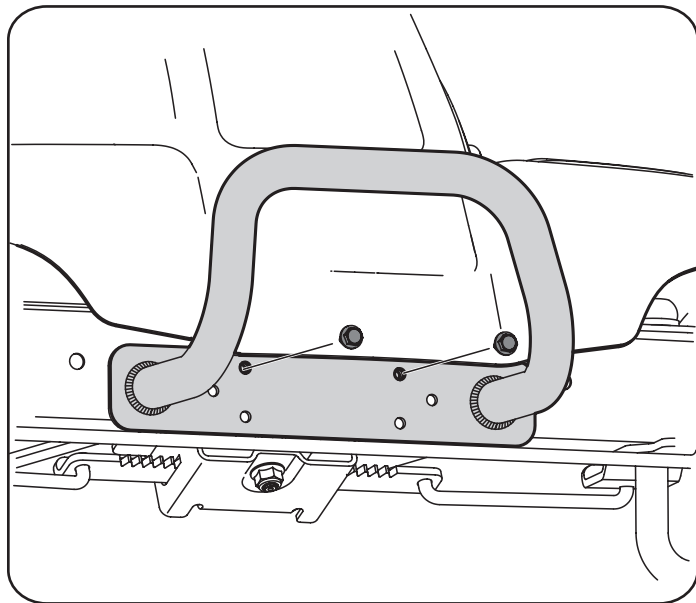

Figure 12
1. Remove the two screws as shown in Figure 12.
2. Position the bumper over the mounting holes and secure using the hardware removed in Step 1, as shown in Figure 12.